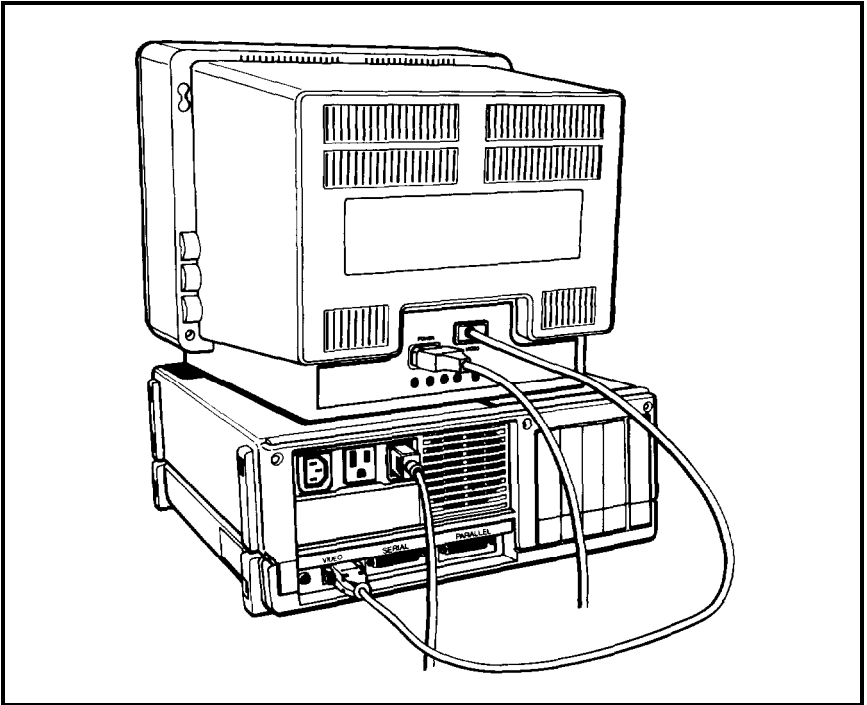

Figure 1-6. Connecting a monitor
3. If you have a TTL monochrome or RGB color monitor, connect the appropriate end of the monitor cable to the direct-drive video port on the back panel, as shown in Figure 1-6. If the plug has retaining screws, tighten them with a screwdriver.